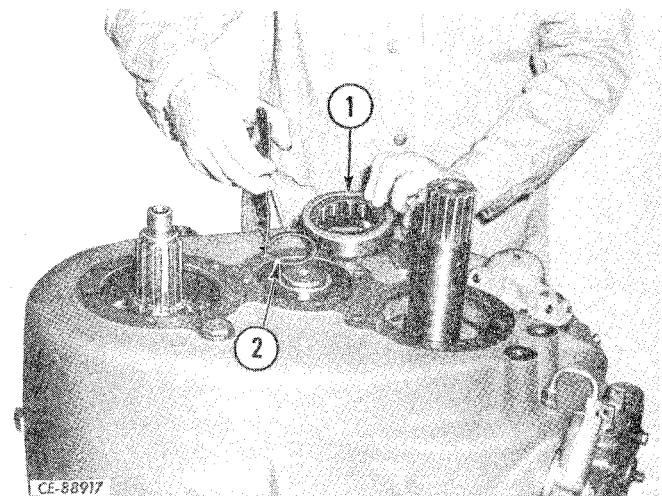

Figure 4-81
Tap the 2nd and 3rd speed bearing outer race (1, Fig. 4-81) in place and secure with snap ring (2).